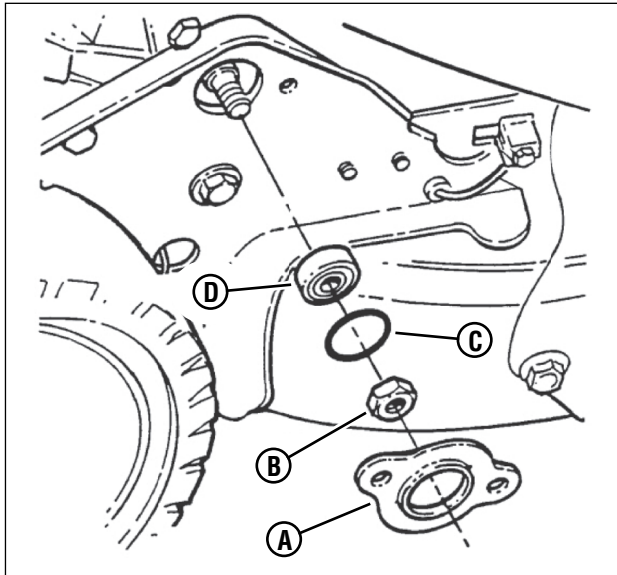

Figure 31: Replacing the hex shaft bearing
2. Remove the 3/8" hex lock nut (B, Figure 31), located on the outside of the right wheel bracket.
3. Remove the holder (A), O-ring (C) and bearing (D).